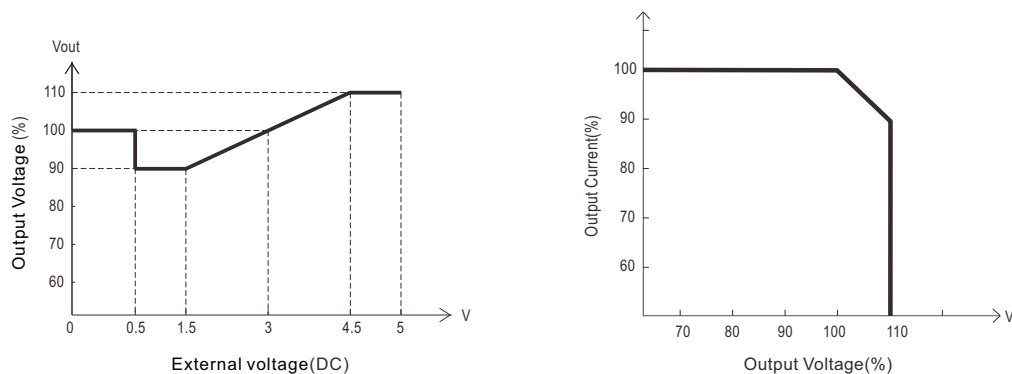

Figure 3-2
(2)Output voltage can be adjusted between 90%~110% of the rated value. The characteristics of output voltage and external DC voltage source and the characteristics of output current and output voltage refer to Figure 3-2.